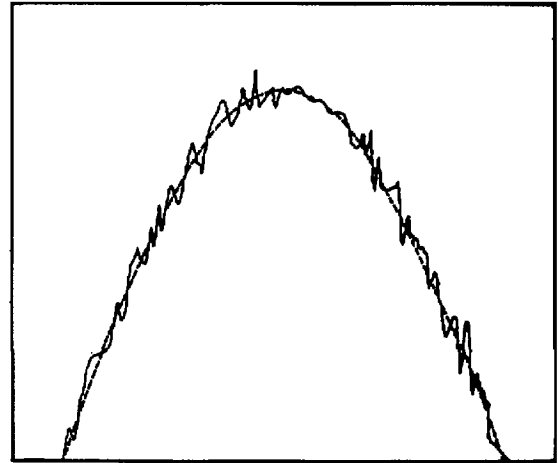

Figure 2-7. SIGNAL VOLTAGE WITH CONVERTER NOISE
c. INTERNAL CONVERTER NOISE. When the instrument is shorted in the AC mode, the converter may produce a residual noise output of approximately 100 uv. This noise voltage will cause an insignificant error as long as AC input signals of 1 mv or larger are applied to the instrument. Figure 2-7 shows a typical half wave of the signal voltage at the output of the converter amplifier. It is easily seen that the noise contributes very little to the average value of the signal and is well within the 2.6% accuracy of the instrument at 1 mv.